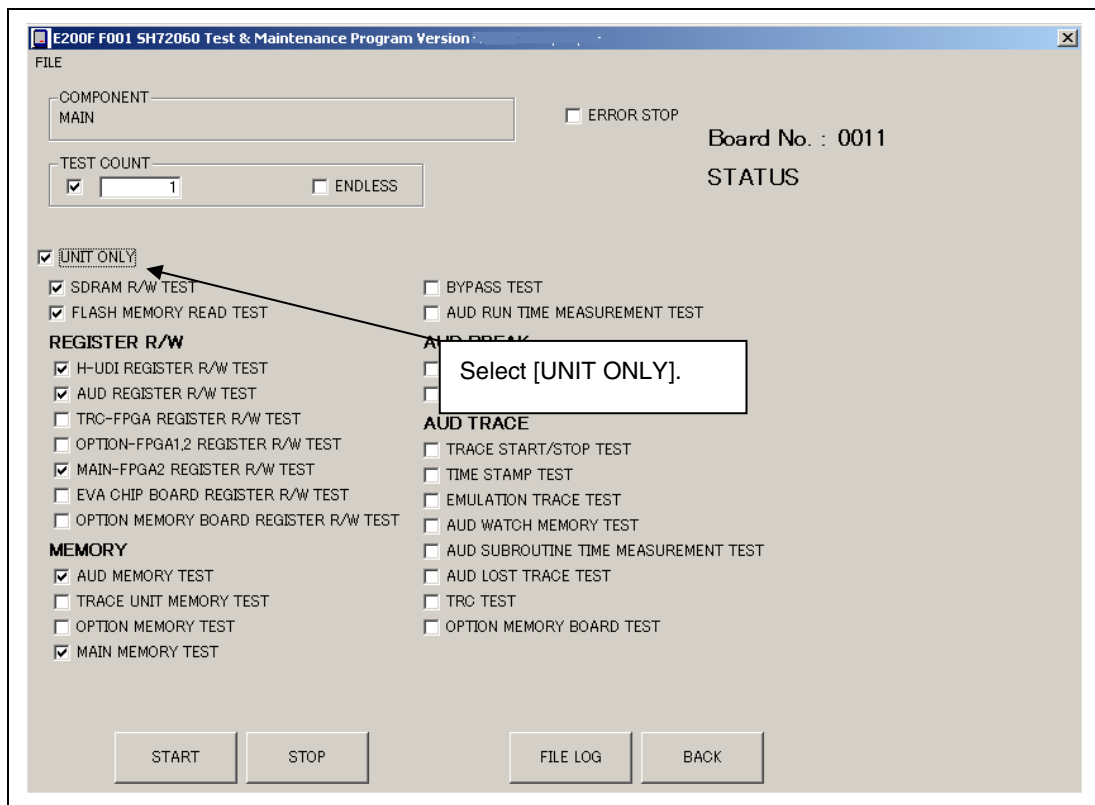

Figure 3.7 Screen for Selecting Test
9. When the emulator enters USER TEST MODE, the screen shown in figure 3.7 is displayed.